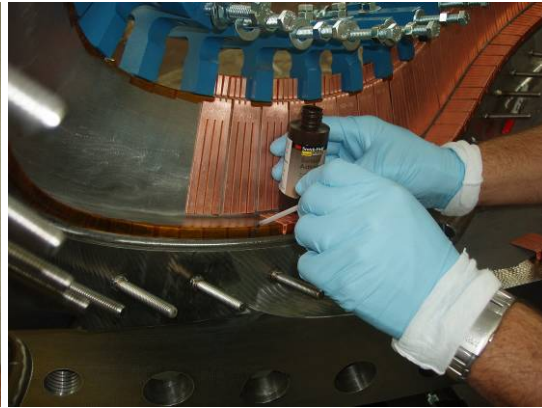

Figure 30- Applying Accelerator [Horizontal]
- Prior to placing the cladding in its final position, apply by brush 3M Accelerator “Pronto Surface Activator” to small area of MCWF where the adhesive on the cladding will mate with the winding form. [Figure 30- Applying Accelerator [Horizontal]]